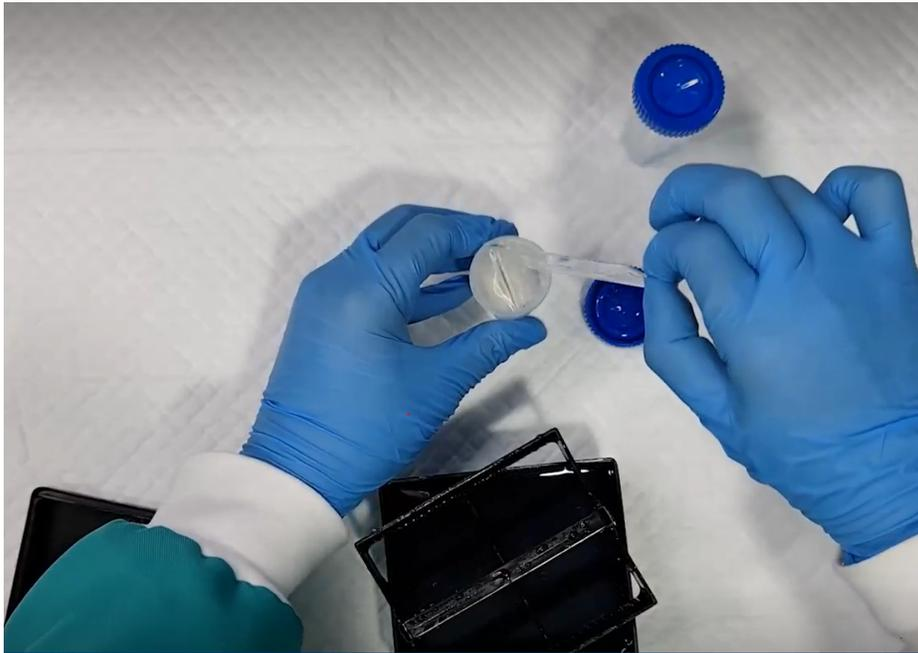

Figure 3. Removal of slides from the Pap jars.
1. Take out the slide staining dish and rack (Figure 3) pre-filled with 200 mL of cold (4°C) SAB.